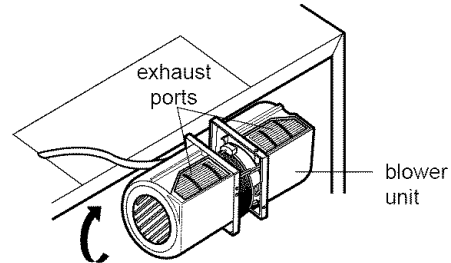

**Figure 13**
2. Carefully lift the blower unit out of the microwave oven. Disconnect the blower wire from connector. See **Figure 13**.